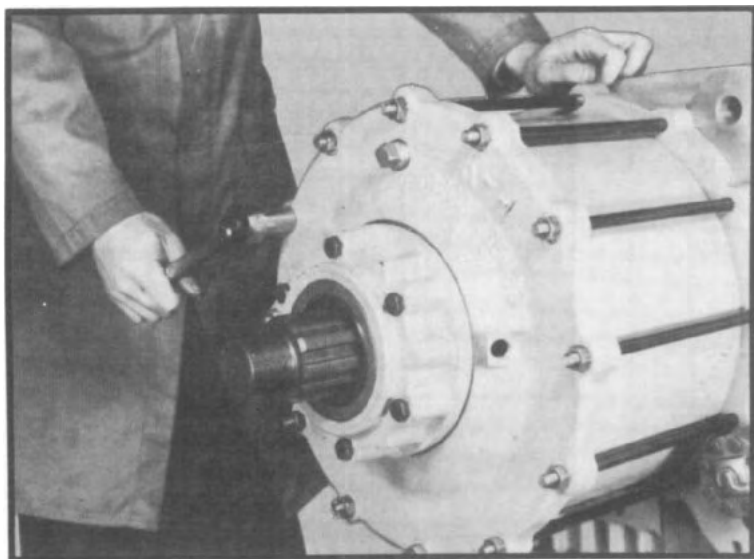
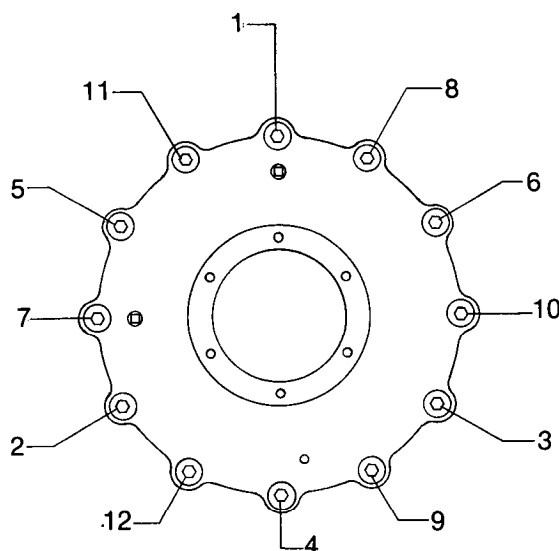

Fig. 135
Fig. 136
- 2.28 Assemble stud nuts to studs and tighten nuts to correct torque. (See fig. 135 and fig. 136.)
- 3.29 Assemble capscrews to planetary cap and tighten to correct torque. (See fig. 136.)